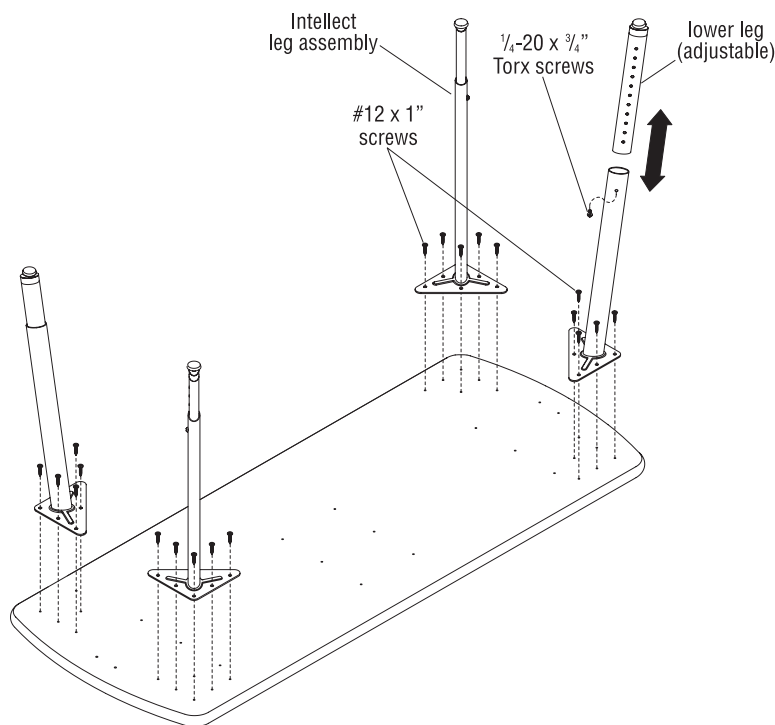

Figure 1
2. Position the leg assembly onto the table top, aligning the holes in the base with the pre-drilled holes in the table top. Secure the leg assembly to the top using six #12 x 1" screws at each base, but **do not over-tighten screws**. Repeat for other three legs (Figure 1).
2. Loosen the 1/4-20 x 3/4" Torx head screw on the leg assembly until the lower leg slides freely (Figure 1).
3. Position the lower leg to the desired table height and line up the hole in the lower leg with the loosened screw in the upper leg (Figure 1).
4. Re-tighten the screw and repeat the process for the remaining three legs (Figure 1).